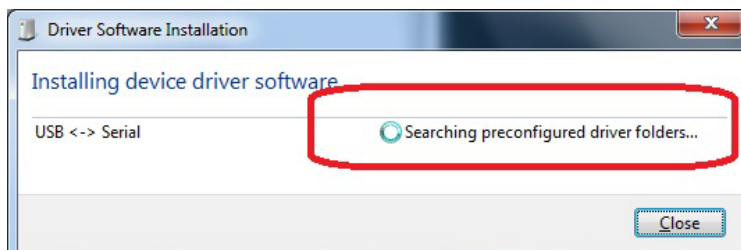

Fig. 3
4. When the applicable driver is detected, it will run 'Installing device driver software'. (Fig. 3)